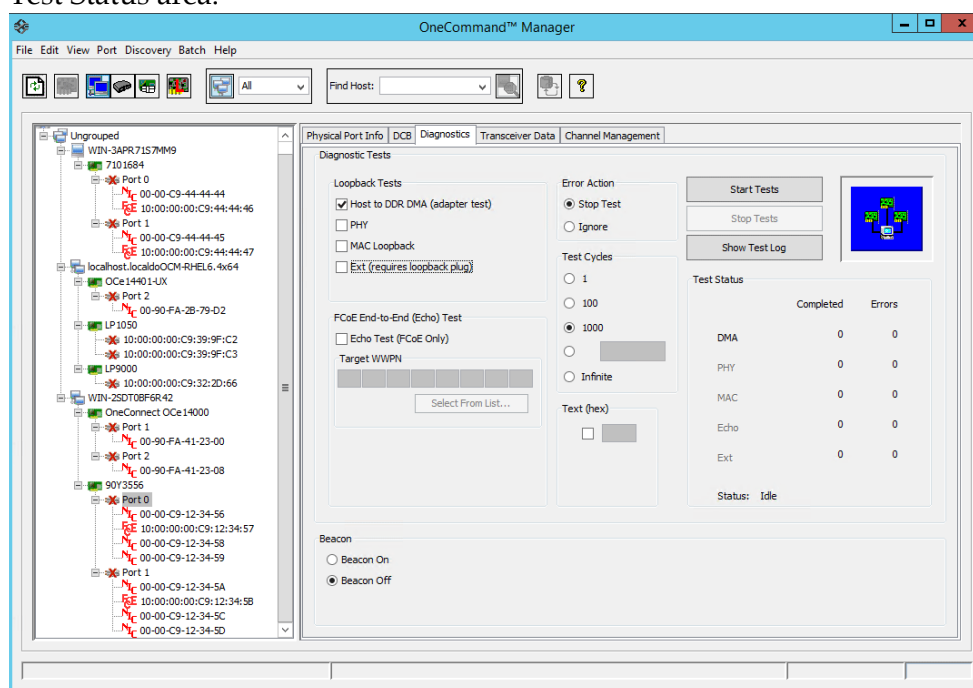

Figure 13-14 Diagnostics Tab (10GBASE-T adapter selected)
Use the Diagnostics tab (Figure 13-14 on page 248) to do the following:
2. Select the **Diagnostics** tab (Figure 13-14 on page 248). From the Loopback Test section of the dialog box, choose the type of Loopback test you want to run and define the loopback test parameters.
2. Select the **Diagnostics** tab (Figure 13-14 on page 253) and click **Beacon On** or **Beacon Off**.
2. Select the **Diagnostics** tab (Figure 13-14 on page 248).
1. After running a test from the Diagnostic tab (Figure 13-14 on page 248), click **Save Test Log**. The Diagnostic Test Log dialog box appears (Figure 13-17 on page 252). The default name of a saved file is DiagTest.log.